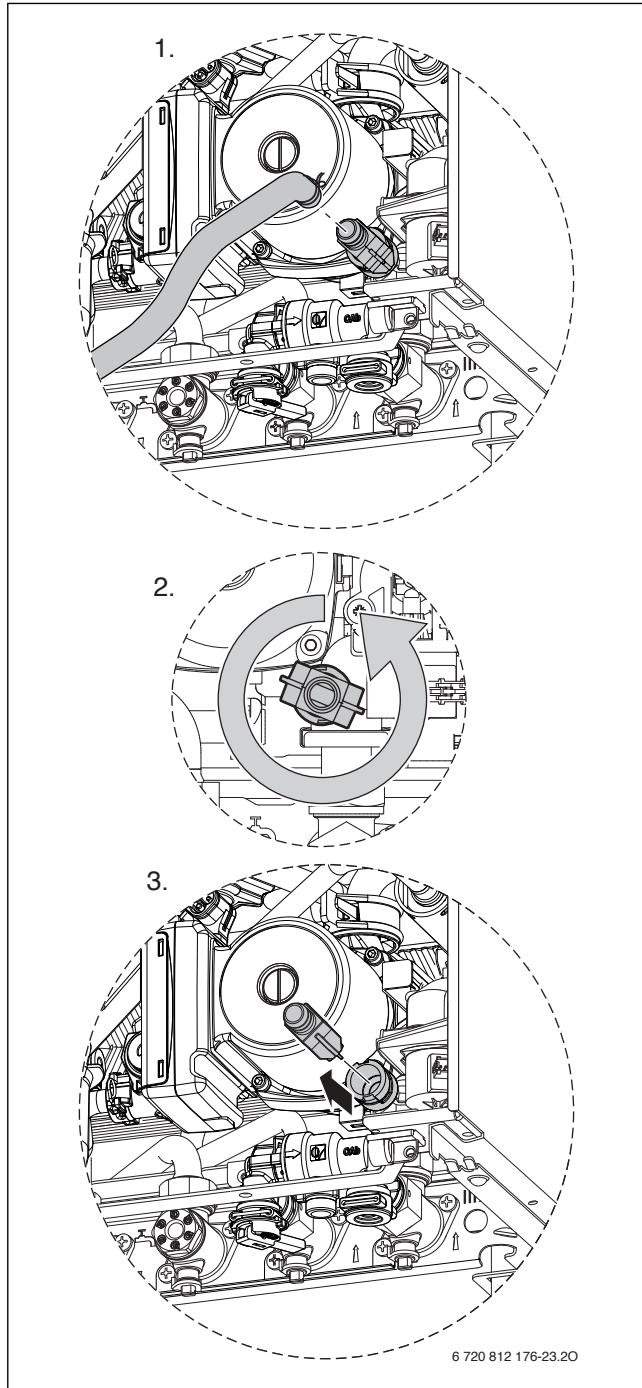

Fig. 97 Drain tap removal
- ▶ Disconnect the drain pipe from the drain tap (see e. g. step 1 in Fig. 97).